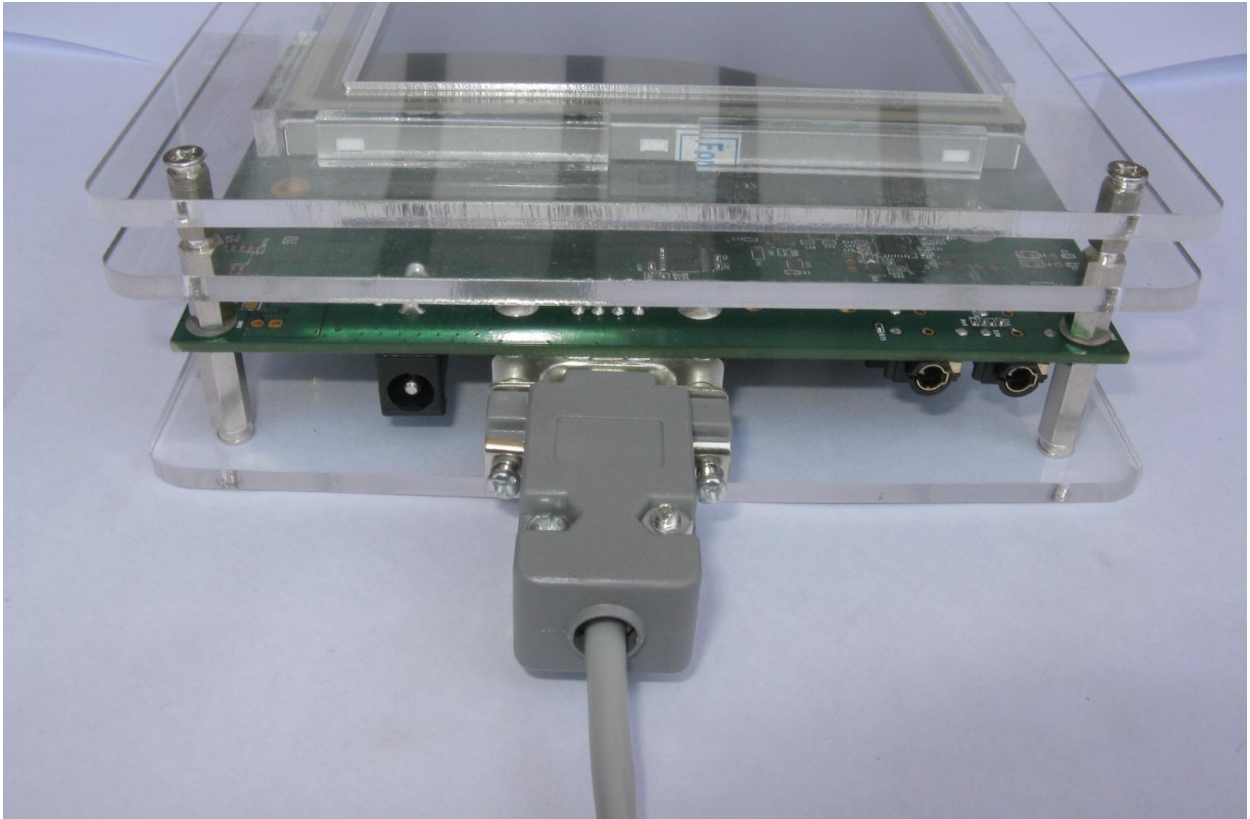

Figure 3: iMX51-Carrier Card Serial Port Connection
2. Connect the other end of the serial cable to serial connector in the Board as shown in Figure 3